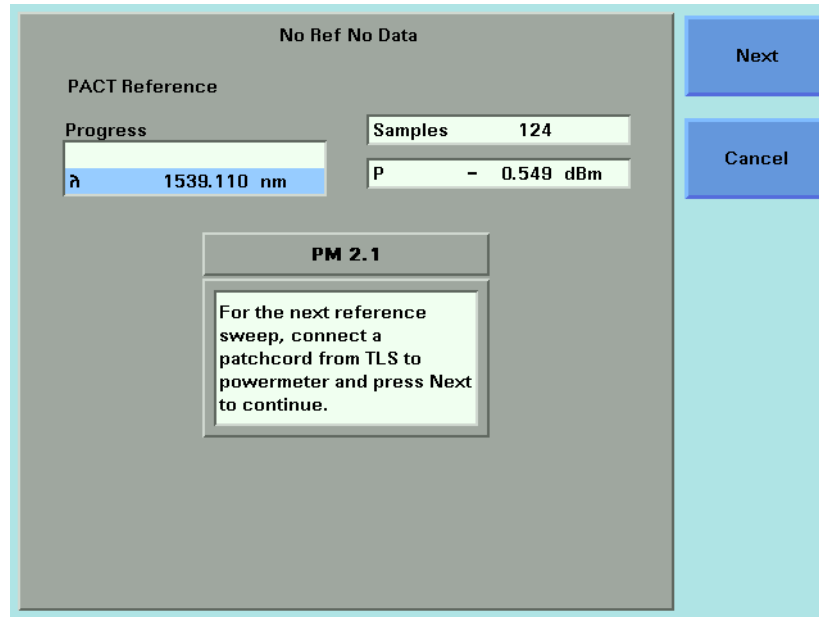

Figure 164 Connection Prompt Screen
- 20** Press [New Ref]. A box similar to the box in Figure 164 appears prompting you to connect a fiber to the first Power Meter channel.
If there is another Power Meter channel to reference, you will be prompted to perform this reference measurement from the user interface by a prompt box similar to the box in Figure 164. Restart this procedure at step 21.